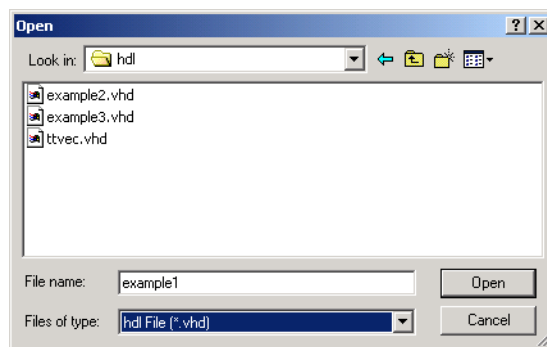

Figure 4-4. Open Dialog Box
1. **Double-click the HDL file in the File Manager, or from the File menu, click *Open*.** This displays the Open dialog box, as shown in Figure 4-4.